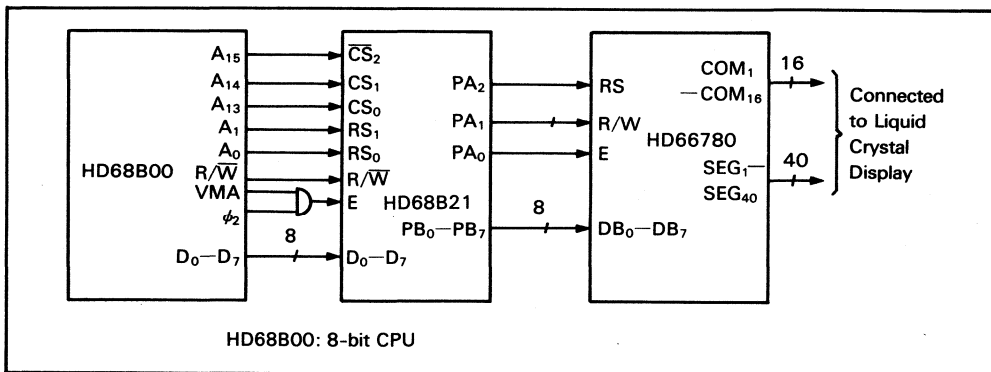

Figure 25. Example of Interface to HD68B00 using PIA (HD68B21)
**When Connecting to 8-Bit MPU Through PIA:** Figure 25 is an example of using a PIA or I/O port (for a microcontroller) as an interface device. Input and output of the device is TTL compatible.